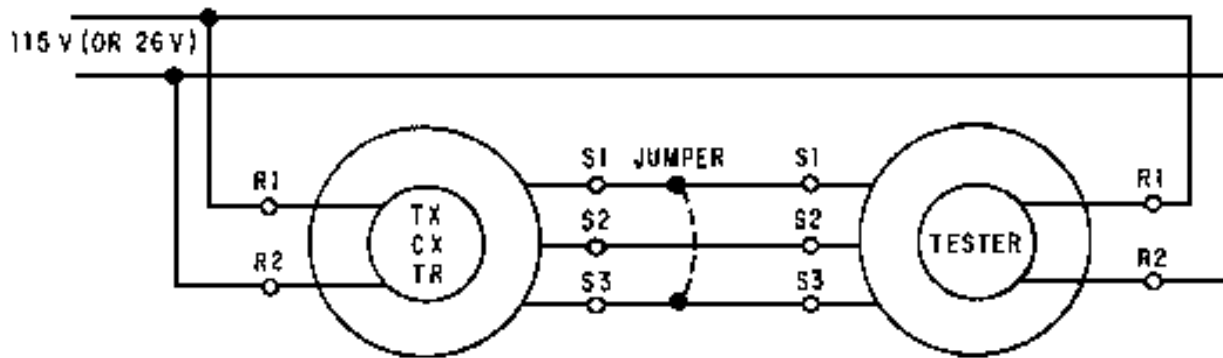

Figure 1-43.—Zeroing a synchro using a synchro tester.
1. Connect the synchro tester as shown in figure 1-43.